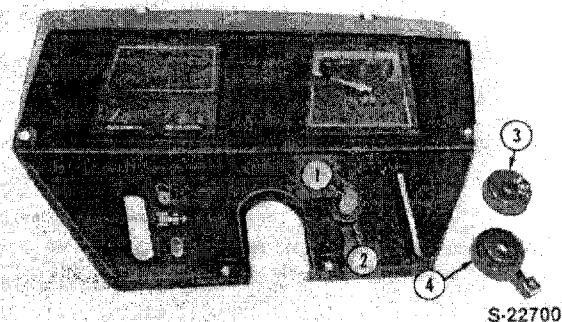

Figure 15
1. Remove the light switch knob (3), Figure 15.
2. Remove the flasher switch lever knob (4).